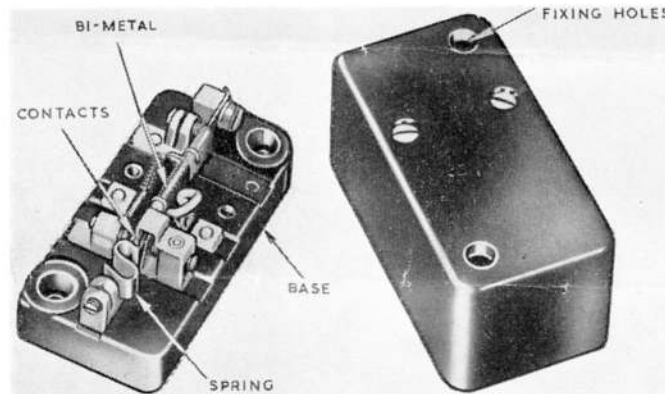
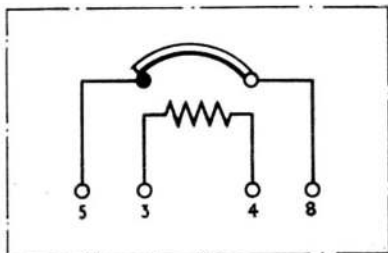

Fig. 1. Thermal delay switch, Type L413/IC/6/24
Fig. 2. Circuit diagram
2. A general view of the unit is given in fig. 1, with a diagram of connections in fig. 2.